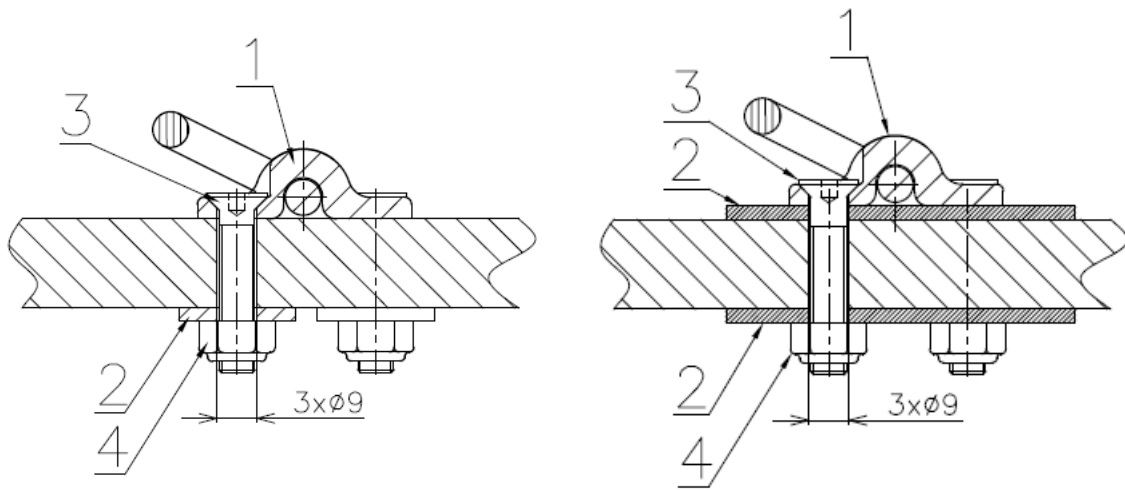

Figure 1: part definition for wooden floor (left) and composite floor (right)
3. Depending on floor type install the fixing point as seen in Figure 1.